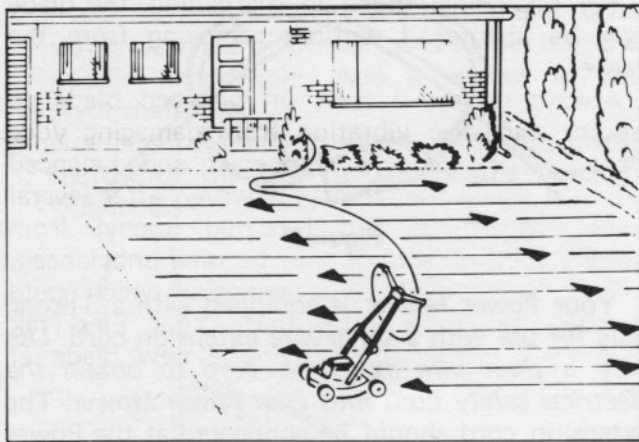

Figure 8
2. Starting at point nearest electrical outlet, move back and forth across lawn. (Fig. 8).